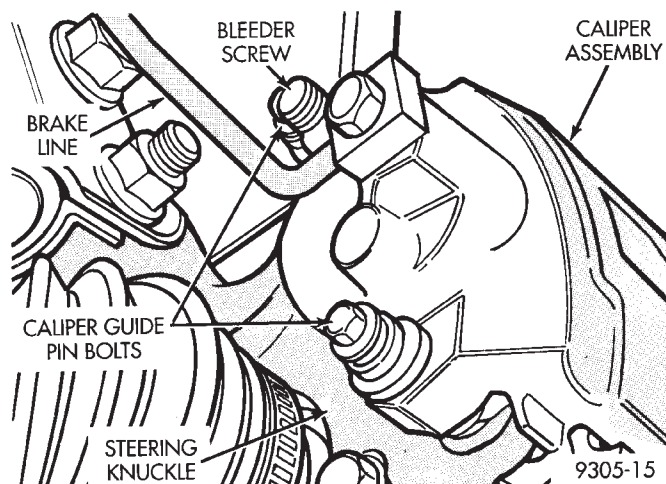

Fig. 11 Caliper Guide Pin Bolts
(6) Remove the 2 guide pin bolts mounting the caliper assembly to the steering knuckle (Fig. 11).
(7) Remove brake caliper assembly from steering knuckle and braking disc. Refer to the Brake Section in this service manual for the required caliper removal procedure. Support caliper assembly by hanging it from frame of vehicle with wire or some
(4) Install braking disc back on front hub and bearing assembly. Install front brake caliper assembly on steering knuckle. Install the 2 caliper assembly to steering knuckle attaching bolts (Fig. 11). Tighten the caliper assembly guide pin bolts to a torque of 19 N·m (192 in. lbs.).